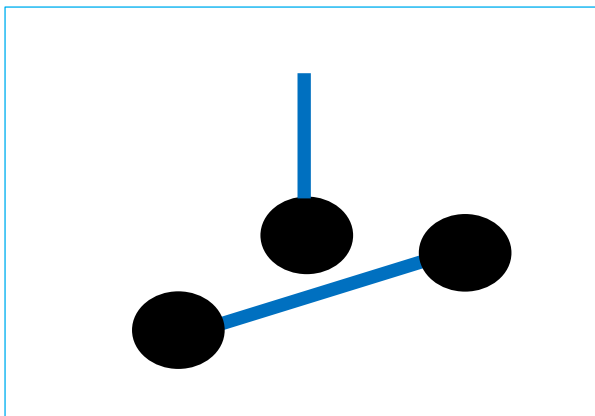

Figure 1 – Pipe undershoot
- Undershoots: A pipe end comes up just short of the pipe to which it is to be connected. See Figure 1.